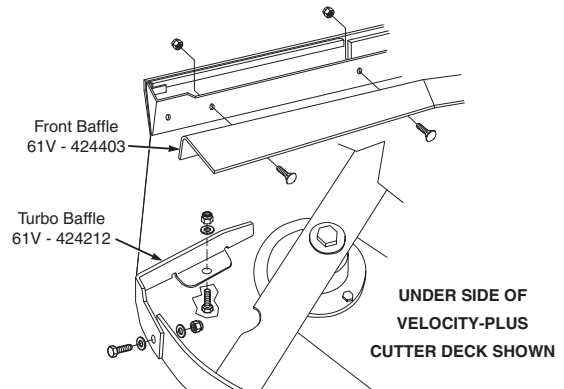

FIGURE 3-2
5. Remove the "Custom-Cut" and "Turbo" baffles from the cutter deck. Using the original hardware, install the new "Custom-Cut" and "Turbo" baffles. See Figure 3-2.